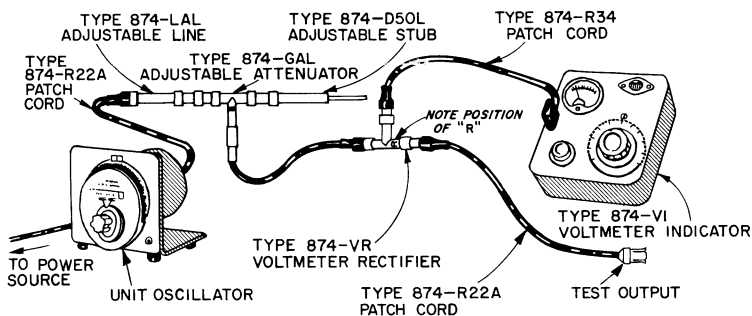

Figure 4. Use of Type 874-VR/-VRL to convert a unit oscillator to a signal generator.
3.2 SIGNAL GENERATOR. In conjunction with a Type 874-GAL Adjustable Attenuator, the 874-VR/-VRL can be used to convert an oscillator into a signal generator.¹ Figure 4 shows an example of a typical setup. The stub is used to produce a current maximum at the pickup loop in the attenuator, and the adjustable line (could be replaced by a single stub or double-stub transformer) is used as a matching transformer to obtain the maximum oscillator output.